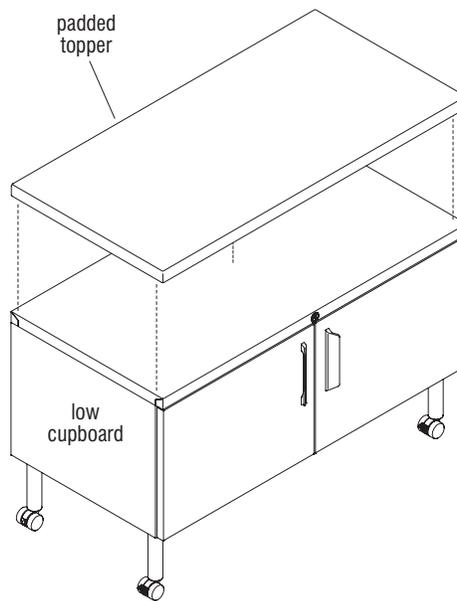

Figure 9
1. Place the padded topper on top of the corresponding unit. The anti-skid rubber strips located on the bottom of the topper pad keeps sliding of the topper to a minimum (Figure 9).